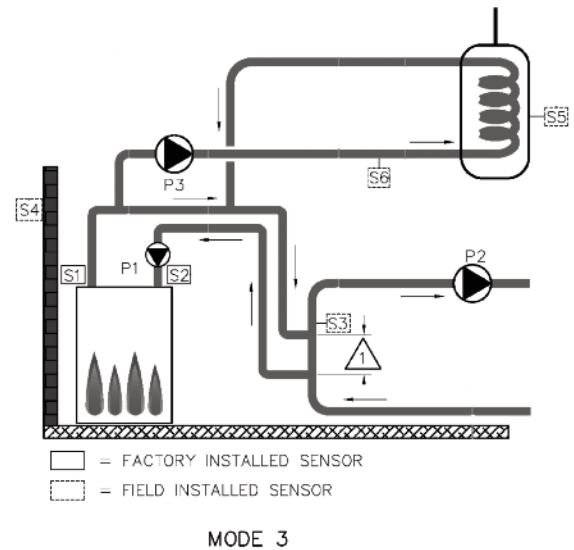

Fig. 16: MODE 3 - Single Boiler with Indirect on Boiler Loop
3. With the heater operating at 100% firing rate, set Valve A (the bypass) to ½ open position, and Valve B to fully open position. See Fig. 16.
5. If this process does not raise the inlet water temperature to 105°F (40°C) for Pool Heater (P) versions and 120°F (49°C) for Hydronic Heating (H7) or Domestic Hot Water (WH7) versions and Valve A is fully open, then slowly throttle Valve B closed to increase the inlet water temperature to the required temperature.